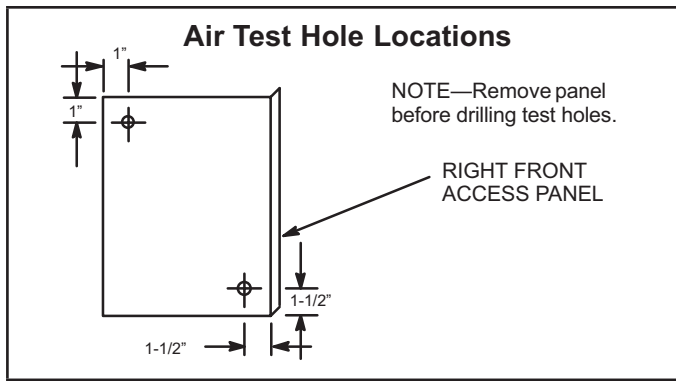

FIGURE 5. Air Test Hole Locations
Connect the properly sized field-provided liquid line to the liquid line stub as shown in figure 5 using one of the following procedures:
- 2 - Drill two 5/16" (8 mm) air test holes in the right front access panel; hole locations are shown in figure 5. Replace the panel.